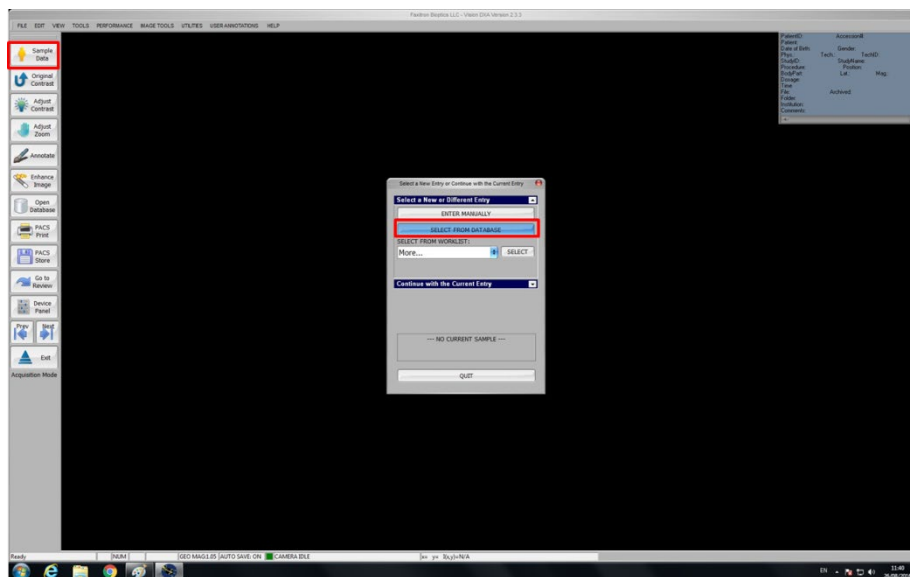

Figure 3: data entry panel
9. Select “Sample data” from the menu on the left hand side of the screen to open the Entry panel (see figure 3).